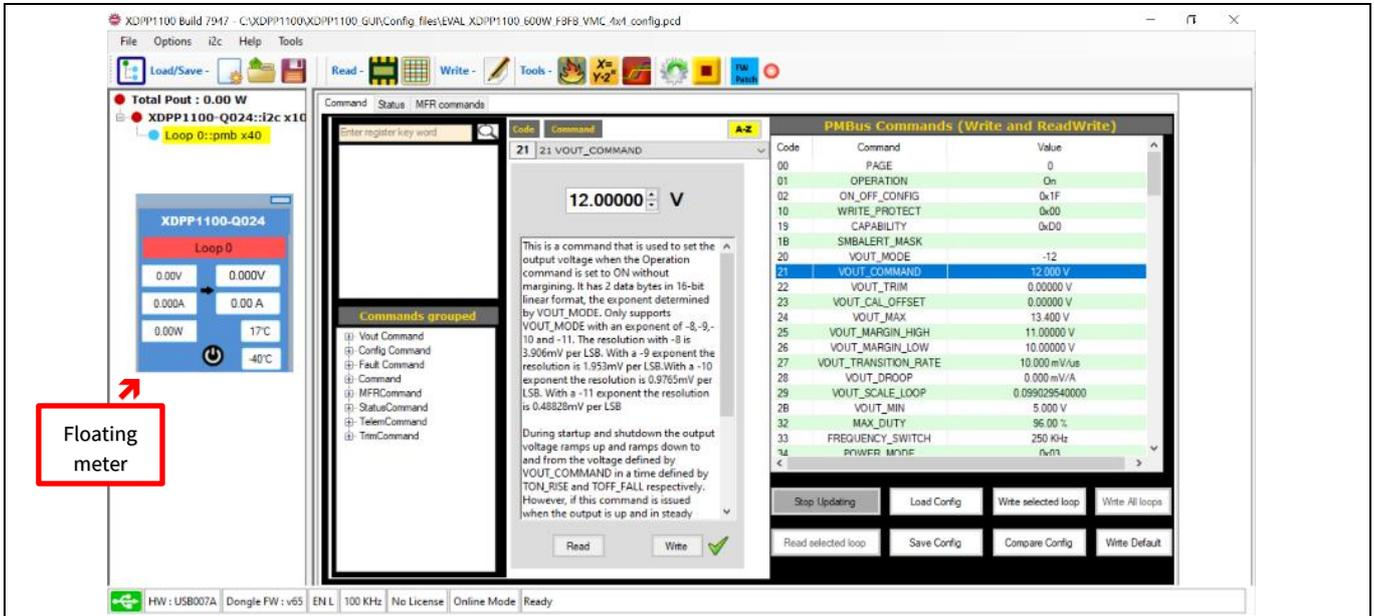

Figure 12 GUI with connected XDPP1100-Q024 and the loaded design file
- 9) For continuous monitoring of the system parameters, which are V_{IN} , V_{OUT} , I_{IN} , I_{OUT} , temperature, and P_{IN} , Click **Options>Enable Telemetry Update** (Figure 11). The check symbol next to each feature from the Options dropdown menu indicates that the item is enabled. Undocking the telemetry window can also be activated by enabling **Show Floating Status** (Figure 12) from the list.
Figure 12 shows the GUI after establishing communication and ensuring the configuration file is programmed to the device. To verify establishment of communication between the digital controller and the device (Figure 12):
- Click the **Loop0::pmbus x40** (highlighted in yellow in Figure 12). In the **Command** tab, the PMBus configuration page of Loop0 will be listed.
- Click the **Loop0::pmbus x40** below the device part number (**XDPP1100-Q024::i2c x10**) (highlighted in yellow in Figure 12). This opens the PMBus configuration page of Loop0.